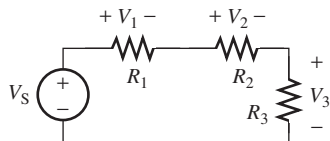

FIGURE P3.16 Circuit for Problem 3.16.
- 3.16** (B) Find V_1 , V_2 , V_3 in Figure P3.16.